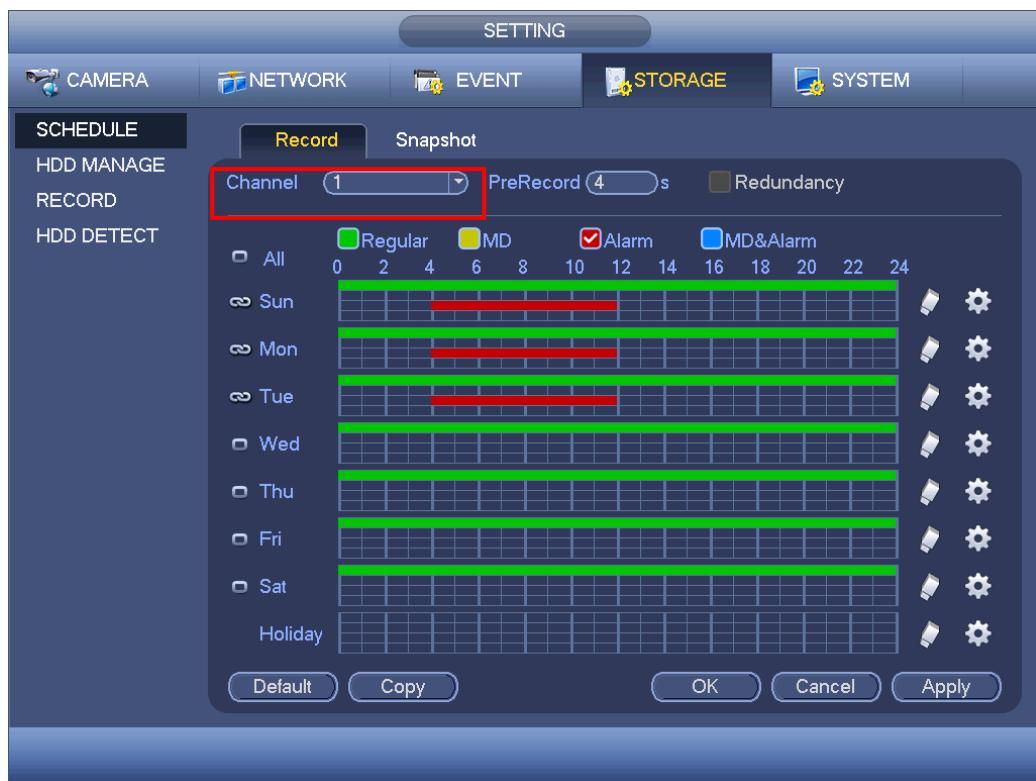

Figure 4-177
- In main menu, from Setting->Camera->Encode->Schedule interface, please enable snapshot function. See interface on the right of Figure 4-177.